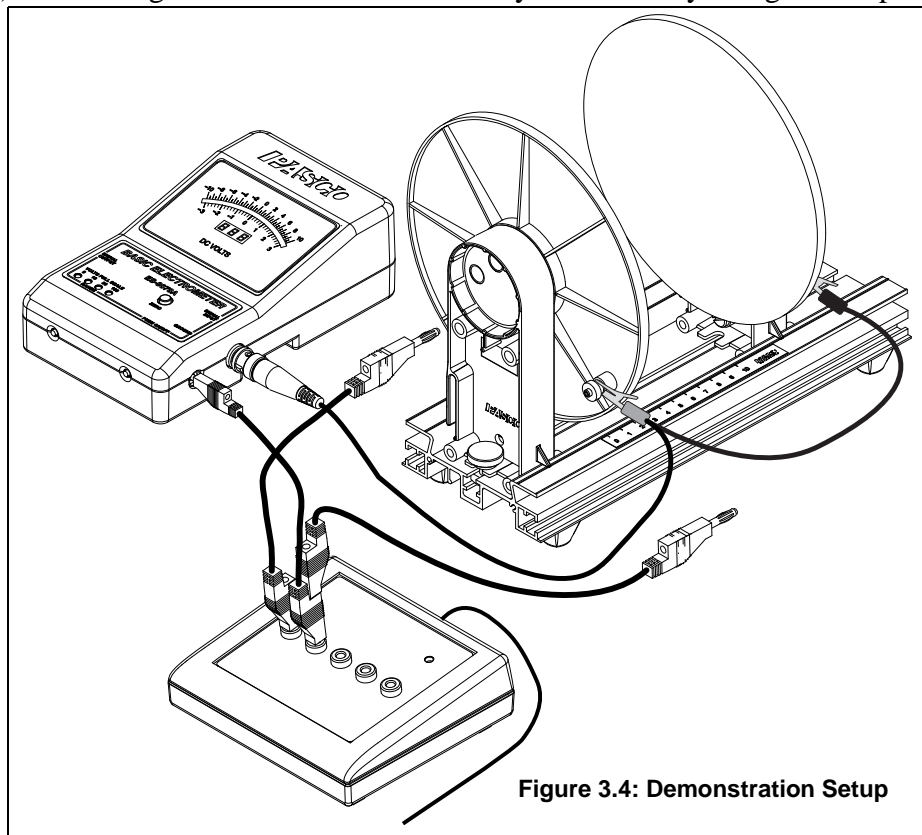

Figure 3.4: Demonstration Setup
1. Figure 3.4 shows the equipment set up. The Variable Capacitor is connected to the electrometer and the electrometer is grounded to earth (through the COM port on the voltage source). The voltage source will be used to only momentarily charge the capacitor.